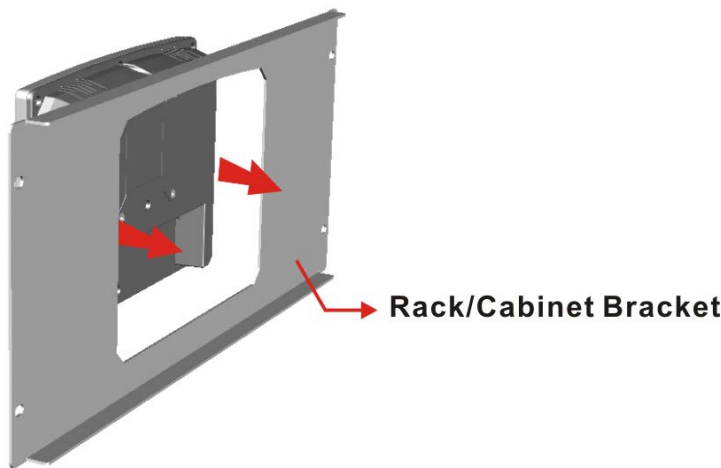

Figure 3-17: Rack/Cabinet Bracket Installation
Step 1: Slide the rear chassis of the AFL3-08A-BT panel PC through the rack/cabinet bracket until the frame is flush against the front of the bracket (**Figure 3-17**).